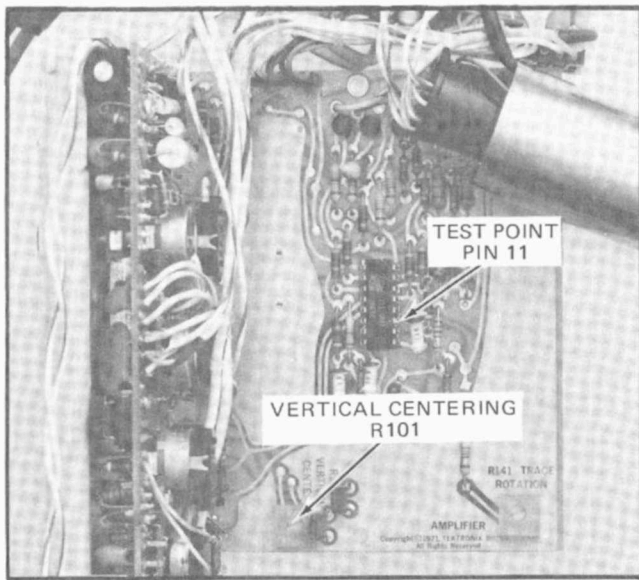

Fig. 4-6. Location of Vertical Centering adjustment and test point.
- a. Connect the DC Voltmeter between pin 11 of U105, on the Amplifier (A-2) board, (positive meter lead to pin 11) and ground. See Fig. 4-6.
d. ADJUST—Vertical Centering, R101 (see Fig. 4-6) to position the trace to the center horizontal graticule line.